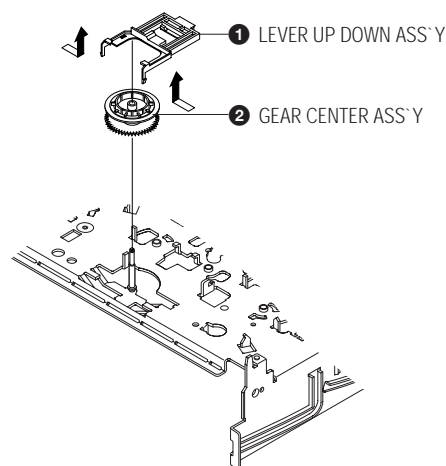

Fig. 2-29 Lever Up Down Ass'y Removal
- 1) Remove the 2 hooks in the direction of arrow as shown Fig. 2-29 and lift the Lever Up Down Ass'y ①.
- 2) Lift the Gear Center Ass'y ②.